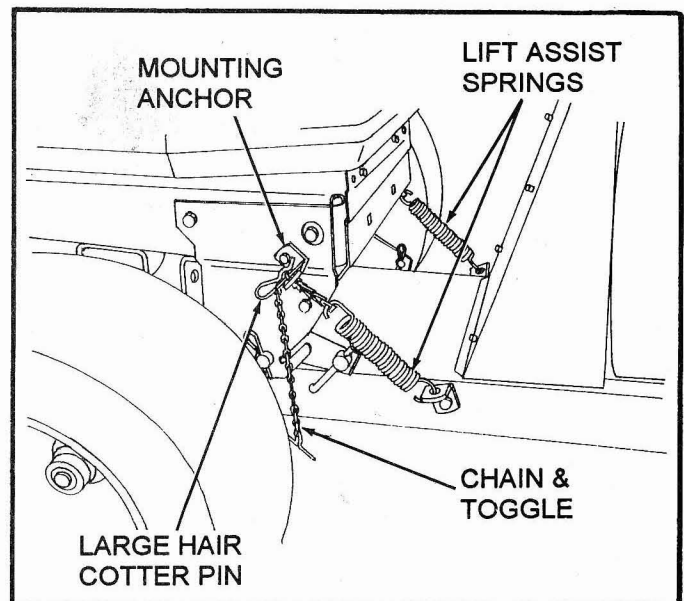

FIG. 29
- The Lift Springs (Fig. 29), assist in carrying the weight of the Snow Thrower. For extra scraping ability in packed or hardened snow, reduce tension of Lift Assist Springs.